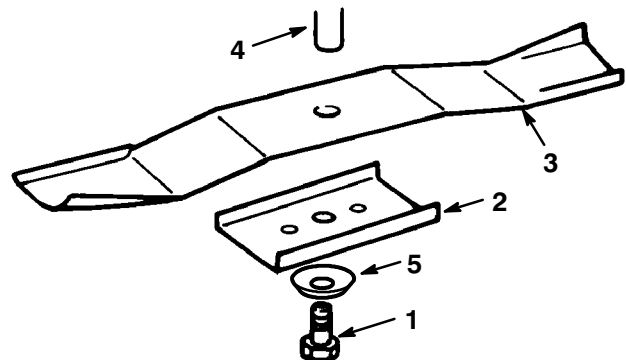

Figure 22
3. Remove the bolt (5/8" wrench), washer, retainer and blade (Fig. 22). A block of wood may be wedged between the blade and the mower to lock the blade when you are removing the bolt.